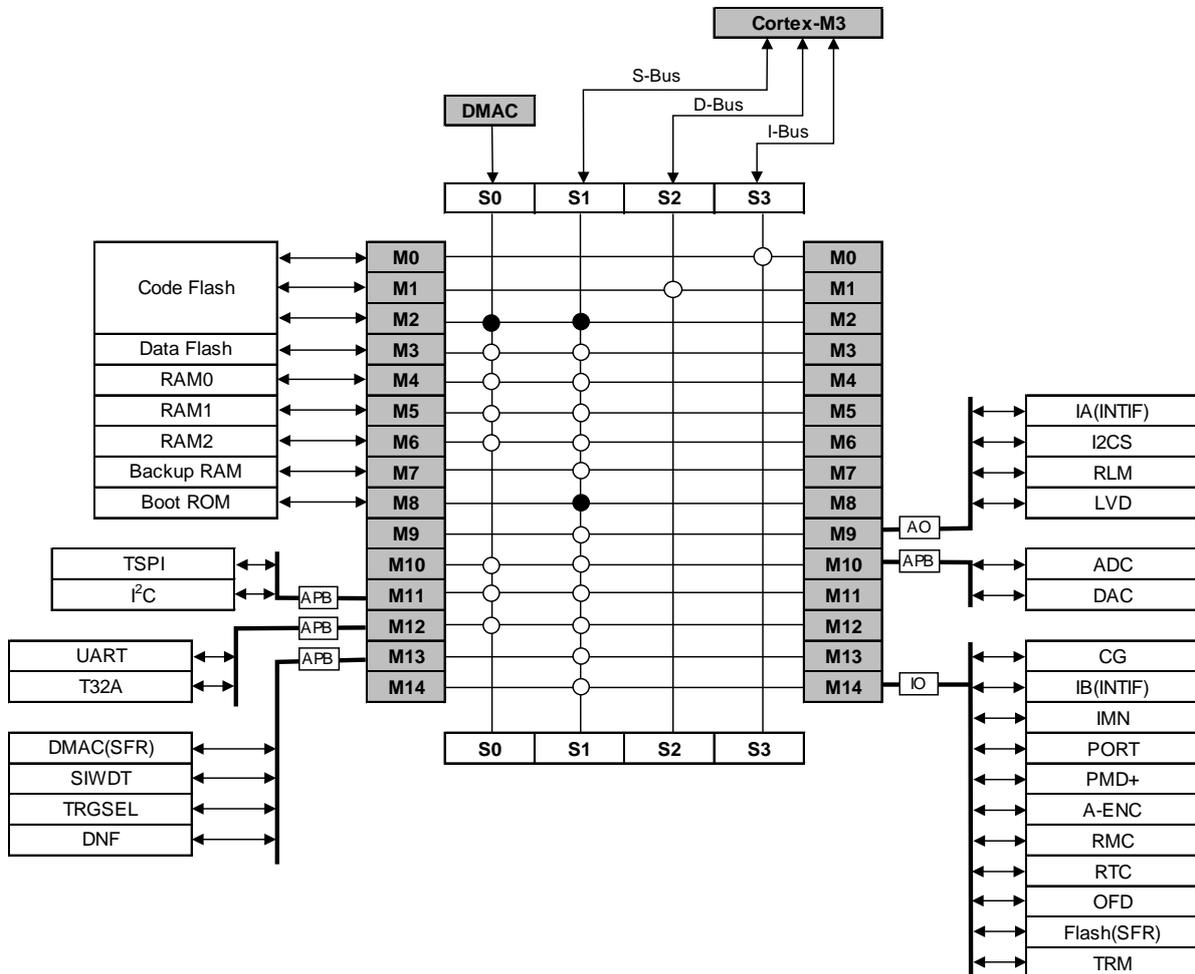
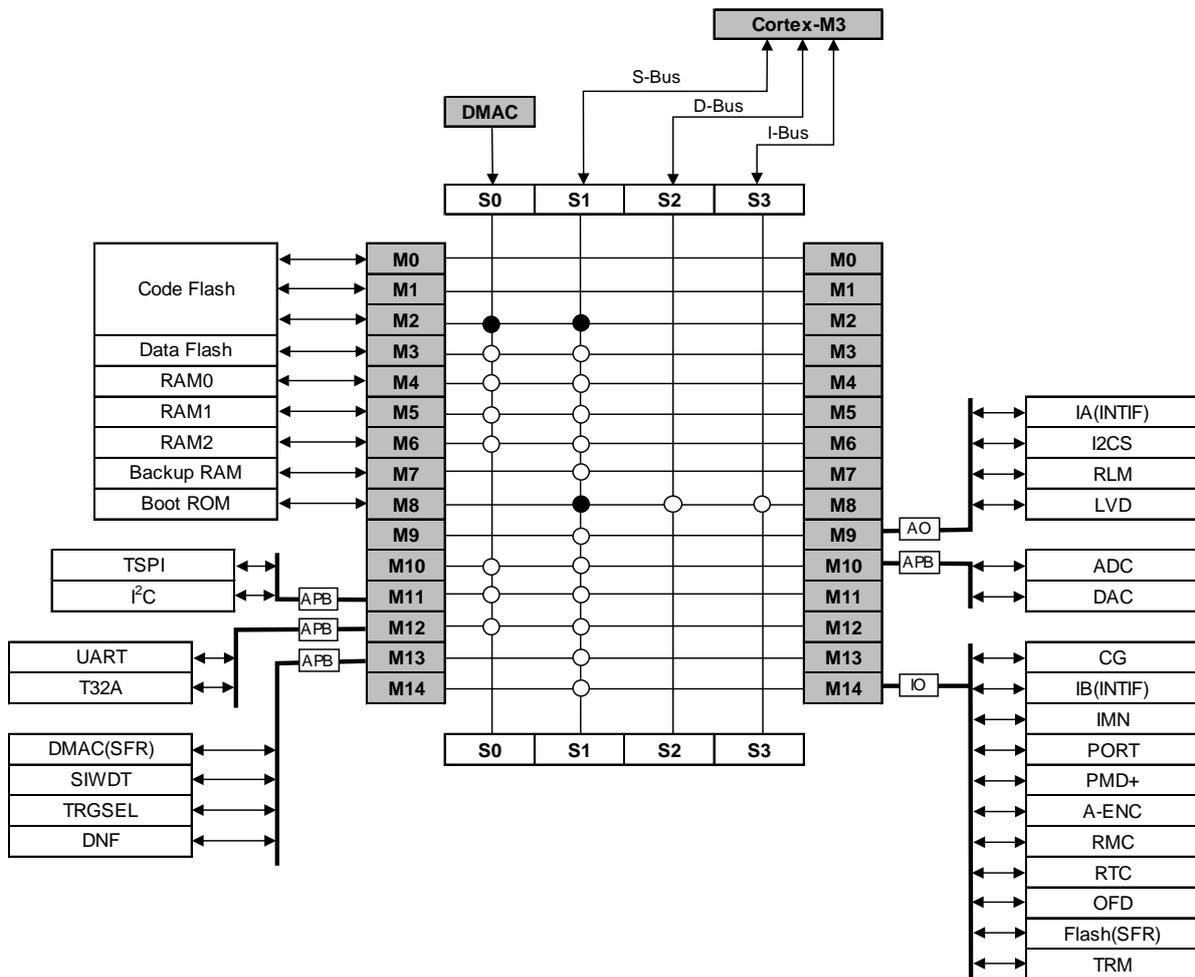

Figure 2.1 Single chip mode
Figure 2.2 Single boot mode
| 1.1 | 2018-06-25 | <ul style="list-style-type: none"> - Terms and Abbreviations: The mistyping was corrected. - 2.1.1. Single chip mode / 2.1.2 2.1.2. Single boot mode Deleted "APB: Advanced Peripheral Bus, AO: 8bit-Bus for the non-block domain, IO: 32bit-Bus for the block domain" in Figure 2.1 and Figure 2.2. - 2.2.1. Code area / SRAM area Corrected contents in Table 2.1 and Table 2.2. - 2.2.2. Peripheral area Corrected chapter name and table name (Table 2.3). Corrected contents in Table 2.3. |
| 1.2 | 2019-07-23 | <ul style="list-style-type: none"> - Related document Modified "Arm documentation set Cortex-M3" to "Arm® documentation set for the Arm Cortex®-M3 processor" - Conventions Updated convension and trademark - Terms and Abbreviations Added D-Bus, I-Bus and S-Bus Modified "INT-I/F" to "INTIF" - 1.Memory Map Modified "TMPM3H(1) group" and "TMPM3H group" to "TMPM3H group(1)" Modified "CPU register area" to "CPU register region" Modified "Arm documentation set Cortex-M3" to "Arm documentation set for the Arm Cortex-M3 processor" Modified "memory fault" to "bus fault" - 2.1.Structure Figure 2.1 and Figure 2.2: Modified "System" to "S-Bus" Modified "Data" to "D-Bus" Modified "Instruction" to "I-Bus" - 2.2.1. Title: Modified "Code area/SRAM area" to "Memory connection" Table 2.1 Start Address 0x00020000 / D-Bus and I-Bus: Modified "-" to "Fault" - 2.2.2. Title: Modified "Peripheral area" to "Peripheral function conection" Table 2.3 Title: Modified "Peripheral area" to "Peripheral function conection" - RESTRICTIONS ON PRODUCT USE Updated |